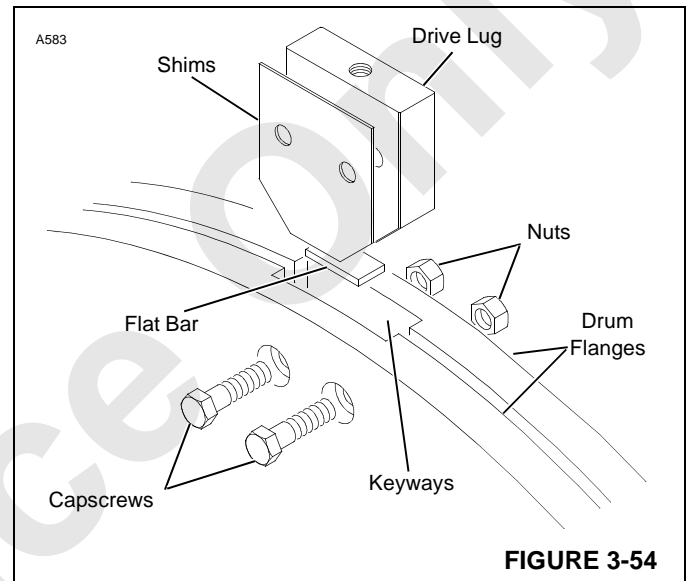

FIGURE 3-54
3. Operate drums to line up keyways in drum flanges as shown in Figure 3-54.
4. Install flat bar and drive lug in keyways as shown in Figure 3-54.
3. Remove drive lug, shims, and flat bar from keyways as shown in Figure 3-54. Store all parts.